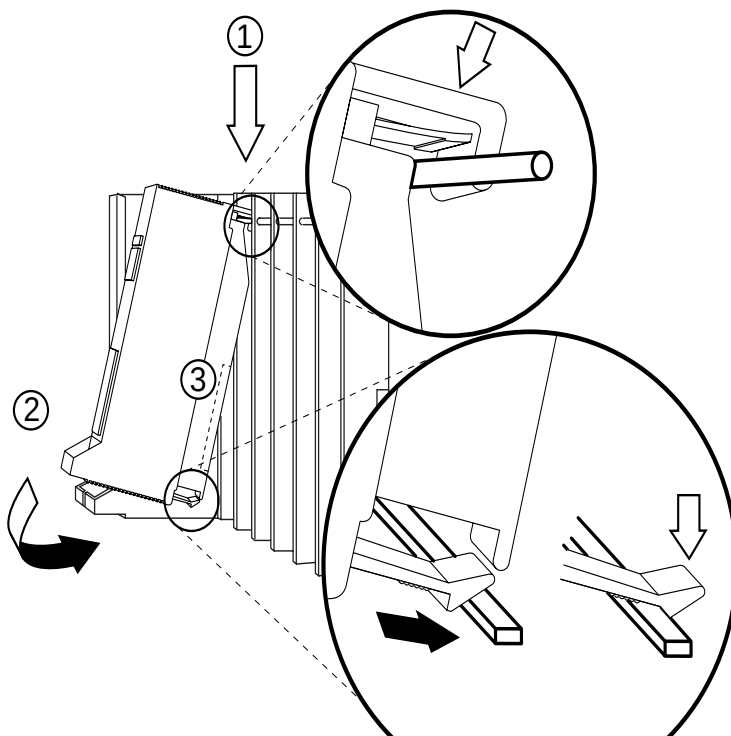

Figure 9-4. Replacing a Module in the Carrier
- ▶ **4. Reinstall the power supply module by hooking it onto the rod at the top of the carrier and then swinging it down into place. See Figure 9-4.**
- ▶ 11. Replace the processor module into the carrier. See Figure 9-4.